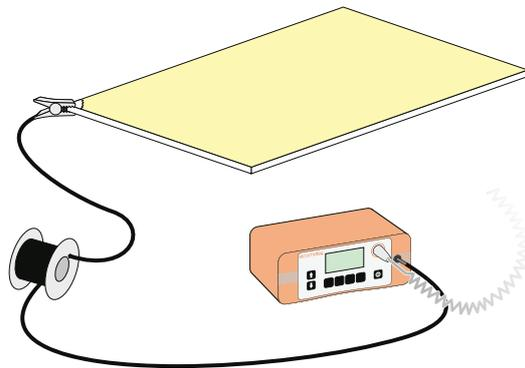

Figure 2
- 2 Connect the clamp of the earth signal return cable to an exposed section of substrate. Plug the other end of the cable into the instrument (Figure 2).